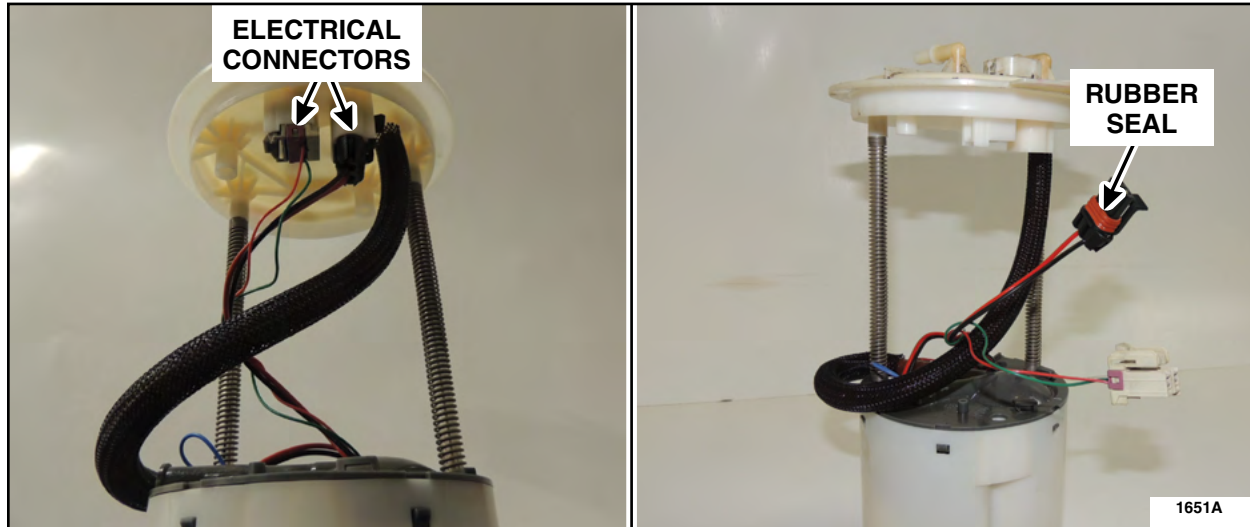

FIGURE 2
3. Disconnect the FDM electrical connectors. See Figure 2.
10. Connect the FDM electrical connectors. See Figure 2.